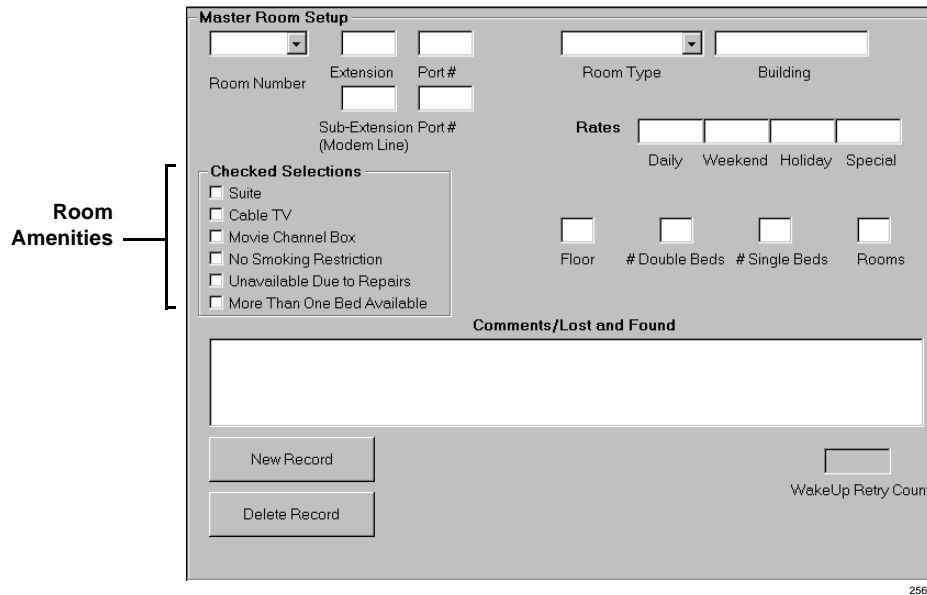

Figure 15-17 Master Room Setup Screen
This screen (see Figure 15-17) enables you to enter, modify, or delete a room record. Records consist of room number, extension, type, location, rates, amenities and comments. (See Table 15-7 for screen field descriptions.)
2. Click Rooms.	The Master Room Setup screen displays (see Figure 15-17).
The Master Room Setup screen displays (see Figure 15-17). You can use the field pull-down menu to select the room.